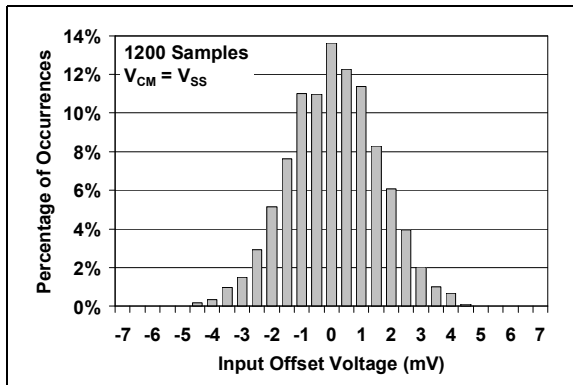

**FIGURE 1-3:** AC and DC Test Circuit for the Push-Pull Output Comparators.
**Electrical Specifications:** Unless otherwise indicated,  $V_{DD} = +1.6V$  to  $+5.5V$ ,  $V_{SS} = \text{GND}$ ,  $T_A = +25^{\circ}\text{C}$ ,  $V_{IN+} = V_{DD}/2$ ,  $V_{IN-} = V_{SS}$ , and  $R_L = 100\text{ k}\Omega$  to  $V_{DD}/2$  (Refer to Figure 1-3).
**Electrical Specifications:** Unless otherwise indicated,  $V_{DD} = +1.6V$  to  $+5.5V$ ,  $V_{SS} = GND$ ,  $T_A = +25^\circ C$ ,  $V_{IN+} = V_{DD}/2$ ,  $V_{IN-} = V_{SS}$ , and  $R_L = 100\text{ k}\Omega$  to  $V_{DD}/2$  (Refer to Figure 1-3).
**Electrical Specifications:** Unless otherwise indicated,  $V_{DD} = +1.6V$  to  $+5.5V$ ,  $V_{SS} = GND$ ,  $T_A = +25^\circ C$ ,  $V_{IN+} = V_{DD}/2$ , Step = 200 mV, Overdrive = 100 mV, and  $C_L = 36\text{ pF}$  (Refer to Figure 1-2 and Figure 1-3).
**Electrical Specifications:** Unless otherwise indicated,  $V_{DD} = +1.6\text{V}$  to  $+5.5\text{V}$ ,  $V_{SS} = \text{GND}$ ,  $T_A = +25^\circ\text{C}$ ,  $V_{IN+} = V_{DD}/2$ ,  $V_{IN-} = V_{SS}$ , and  $C_L = 36\text{ pF}$  (Refer to Figure 1-1 and Figure 1-3).